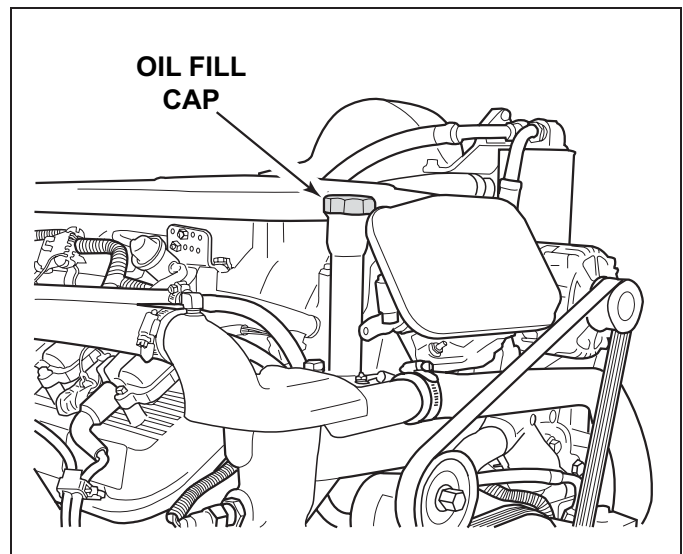

Figure 11-25 Engine Oil Fill (8.1L)
4. Fill the engine with the recommended oil, see OIL REQUIREMENTS, through the oil fill location on the valve cover (Figure 11-25).